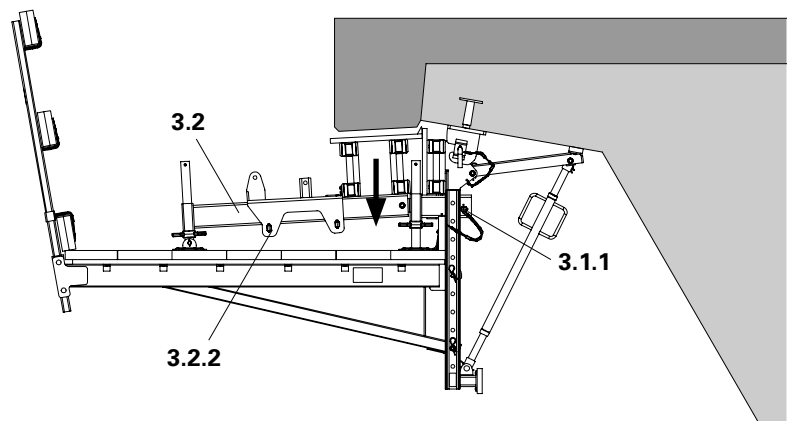

Fig. C2.02
2. Turn spindle downwards until the slab formwork is released from the cantilevered parapet. (Fig. C2.02)